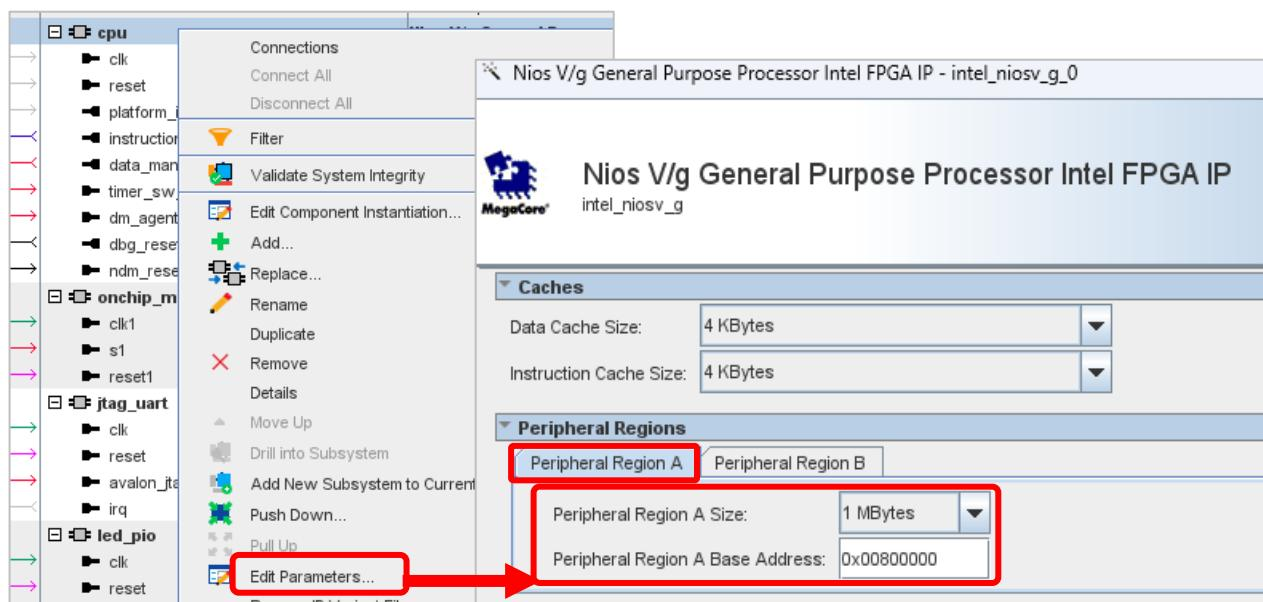

Figure 20 Configuring Peripheral Regions
5. Return to the System View tab, highlight **cpu**, right-click, and select **Edit Parameters....**. From the Nios® V processor core parameter setting GUI window, make the following settings in the **Peripheral Region A tab of the Peripheral Regions** item. In our system, non-cache access is performed on all areas except On-Chip RAM. Referring to Figure 20, set the IO area between 0x0080_0000 and 1MB.